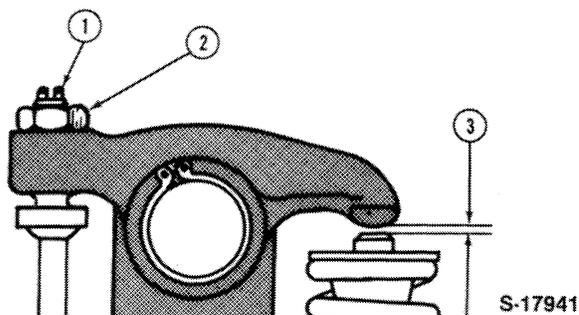

Figure 33
- Adjust the rocker arm to valve clearance, Figure 33. Be sure the tappet is in its lowest position before making the adjustment. To be sure the tappet is in its lowest position, bring the piston to top dead center on the compression stroke, (both valves closed).